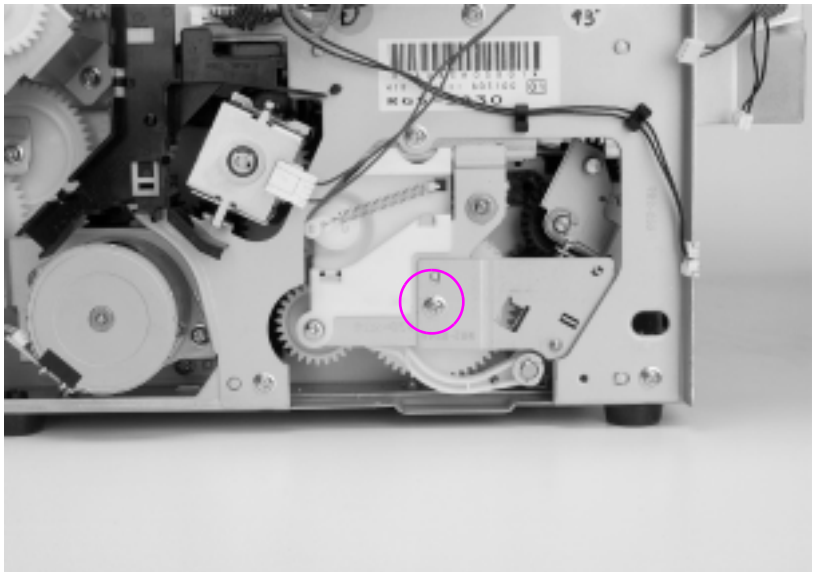

Figure 6-46 Paper pick solenoid removal and replacement
- 4 Remove the one screw shown in Figure 6-46 that holds the solenoid assembly in place and then remove the solenoid assembly.